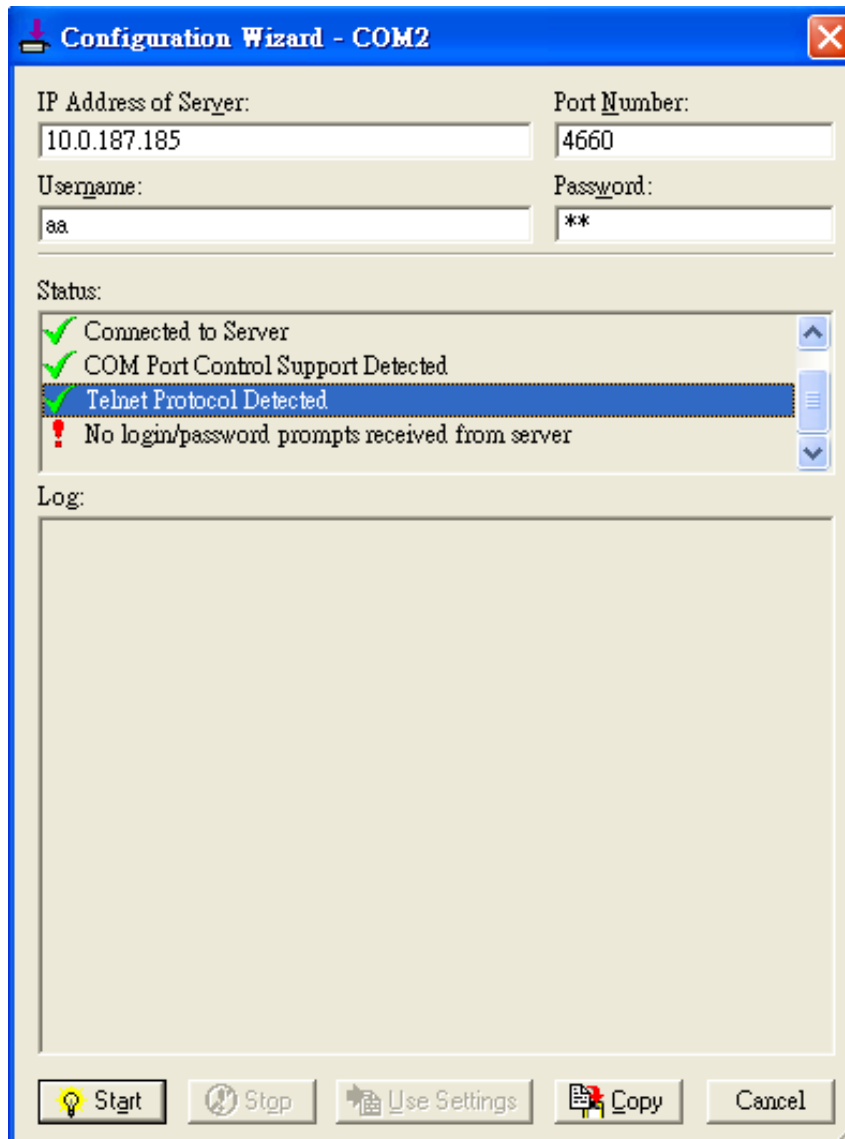

Figure 6.16 VCOM Authentication failed due to disabled VCOM Authentication on SE59XX
- If the status reports with an exclamation mark with a message “**No login/password prompts received from server**” as shown in Figure 6.16. This means that the **User Credentials** option in the Serial/IP utility software is enabled but the **VCOM Authentication** option in the serial device server (i.e. SE59XX) is not enabled. Please enable the **VCOM Authentication** option on the SE59XX by setting a new and non-blank administrator’s Username and Password for SE59XX as described in Section 4.11.2. Note that the **Username** and the **Password** for VCOM authentication are the same username and password of SE59XX Web UI login. The default account, which has the username as “admin” and the password as “default”, is considered as an unsecured account or no authentication option.